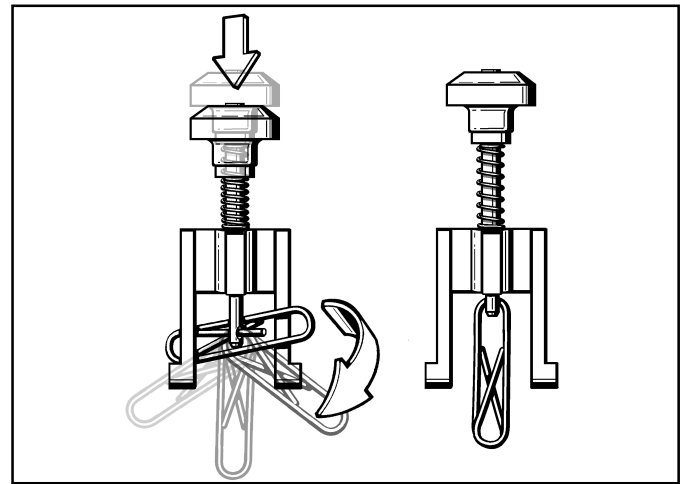

Figure 11
2.3.3 While holding the poppet and poppet guide between thumb and forefinger to compress the poppet spring, install the cable hook(10) onto the poppet stem so that it is held inside the single-looped end (see Fig. 11).